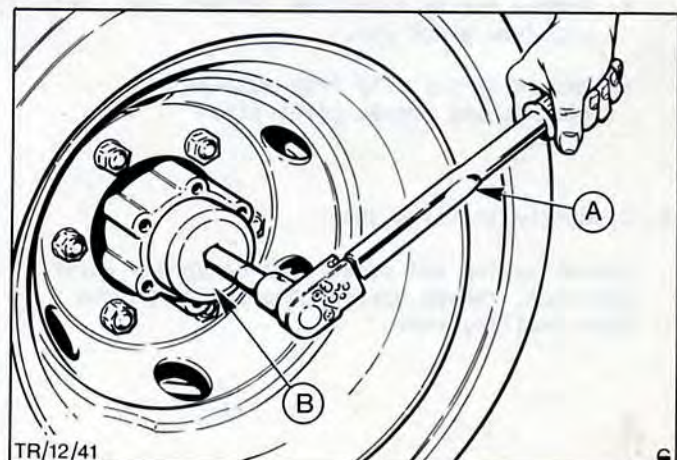

Fig.38. Torque rear hub bearing.
8. Reconnect handbrake cable to lever, Fig.38. Secure shoe to carrier plate. Fit hold down pin, spring and retaining clip.